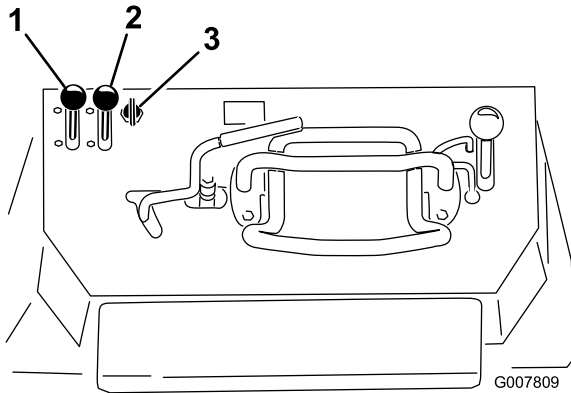

Figure 19
1. Move the throttle lever midway between Slow and Fast positions (Figure 19).
2. Move the choke lever to the On position (Figure 19).
- For model 22971, turn the key to the On position (Figure 19). When the engine starts, release the key.
4. Gradually move the choke lever to the Off position (Figure 19). If the engine stalls or hesitates, engage the choke again until the engine warms up.
5. Move the throttle lever to the desired setting (Figure 19).
1. Move the throttle lever to the Slow position (Figure 19).
3. Turn the key off (Figure 19).